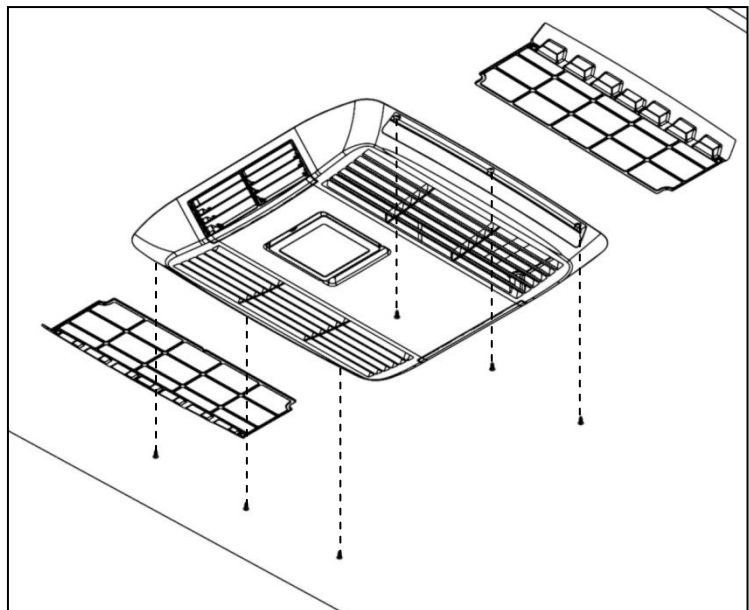

Fig 16: Remove the plenum filters and use the six self tapping screws to secure the plenum over to the ceiling of the caravan. Be sure not to over tighten.
TIP: Tip: Remove the filters to make hole alignment easier. See fig 16
- Remove the filter elements by pulling them out of the plenum, and use the six self tapping counter sunk screws to secure the covers edges to the caravan ceiling (Fig 16). In some instances a very small pilot hole may need to be drilled to guide the screws into place.